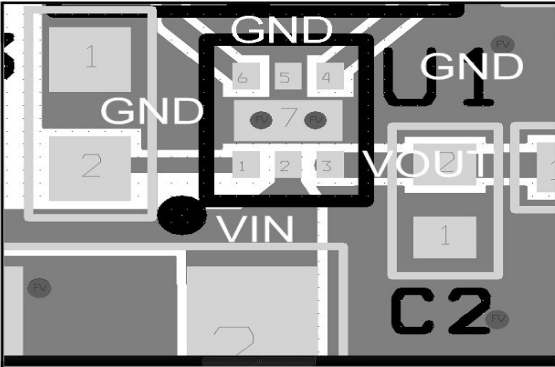

Figure 25: Proper layout of output and ground copper area
3. The  $V_{IN}$ ,  $V_{OUT}$  and GND pins will dissipate most of the heat generated during a high load current condition. Using wide traces will help minimize parasitic electrical effects along with minimizing the case to ambient thermal impedance. The layout suggested in Figure 25 provides each pin with adequate copper so that heat may be transferred as efficiently as possible out of the device. The low-power FLAGB and ON pin traces may be laid-out diagonally from the device to maximize the area available to the ground pad. Placing the input and output capacitors as close to the device as possible also contributes to heat dissipation, particularly during high load currents.